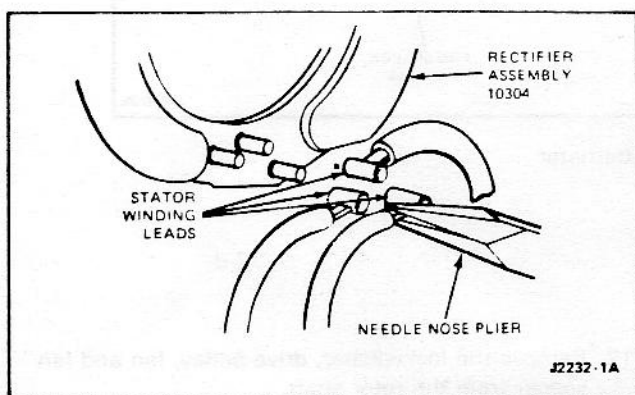

Fig. 16 - Stator Lead Removal and Installation
18. Using a 100 watt soldering iron, unsolder the stator leads from the rectifier assembly. Do not allow the soldering iron to overheat the rectifier. When removing the rectifier assembly from the alternator, do not cut the stator lead wires. Unsolder the stator terminals from the molded circuit board terminals and with needle nose pliers pull stator lead terminals upwards from the rectifier assembly (Fig. 16). While the terminals are still hot, shake the molten solder from the terminals.